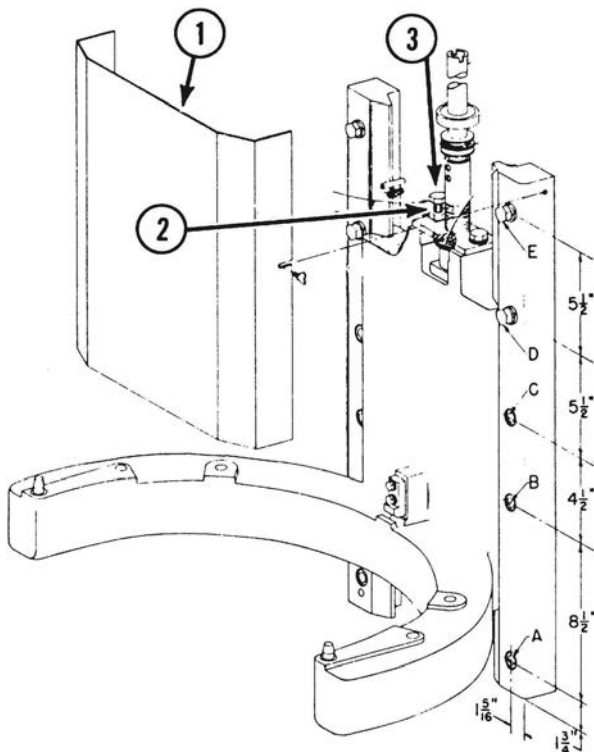

Fig 7-2
- B. Remove the apron (1, Fig. 7-2) and inner apron. (Older mixers do not have an inner apron.)
- C. Raise the bowl support to its top position and remove the body putty and paint from in front of the 3 bottom bolts (A, B, C., Fig. 7-2) on the right hand slideway.
- F. Tighten the top slideway bolt (E, Fig. 7-2).